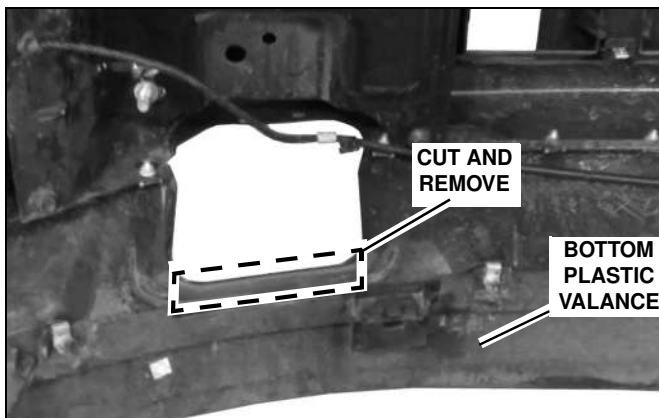

Figure 11
- Unscrew and remove the bottom plastic valance from the bumper. Keep the bottom valance for reinstallation if the Mount Kit is removed. Then cut and remove the narrow lip of the plastic portion of the bumper directly below where the tow hooks protruded from. (See Figure 11)